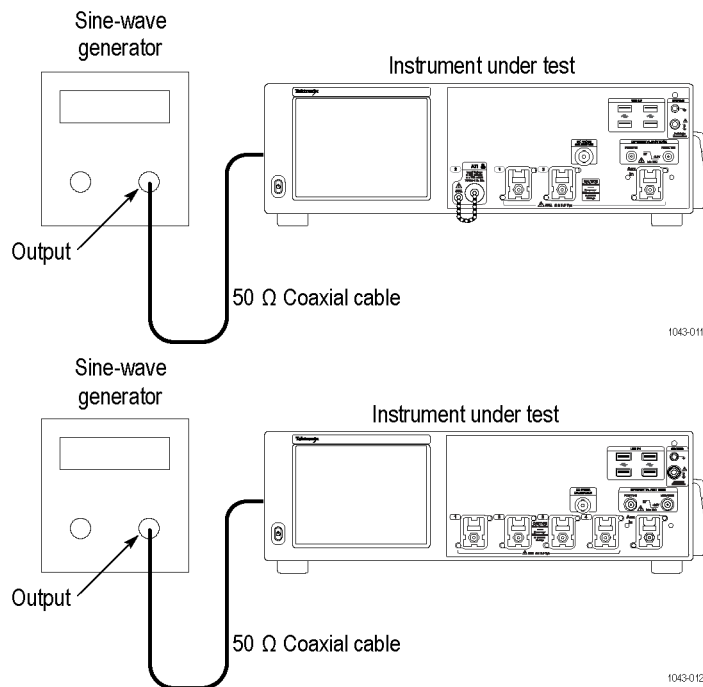

Figure 26: Timebase and delay time final test hookup
- Move the cable from the **CH1** input to the rear-panel **Ext Ref In** input (See Figure 26: Timebase and delay time final test hookup on page 131.)